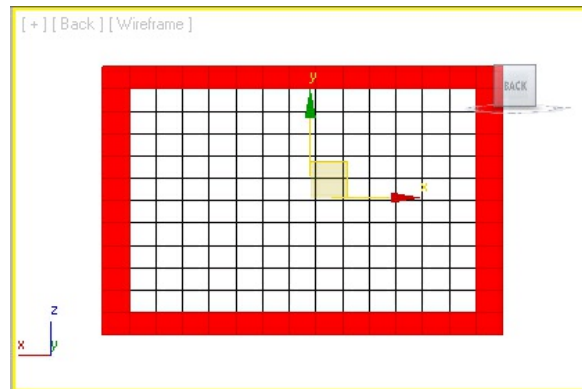

Figure 8-132 The outer polygons selected in back portion
12. In the Back viewport, hold the CTRL key and select the outer polygons of *back portion*, as shown in Figure 8-132.